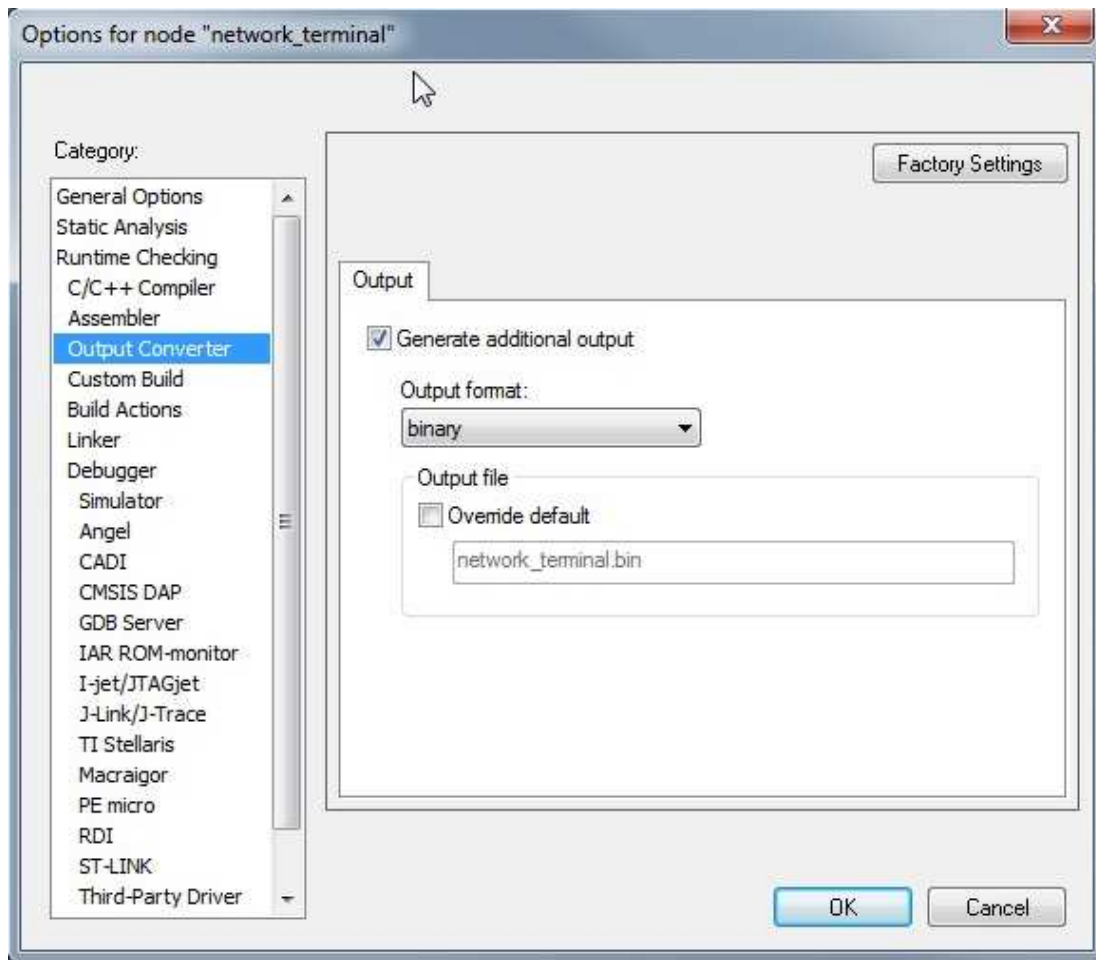

Figure 29. IR Generate Binary Output
- On the Output Converter tab, select the Generate additional output checkbox, and change the output format to binary (see Figure 29).